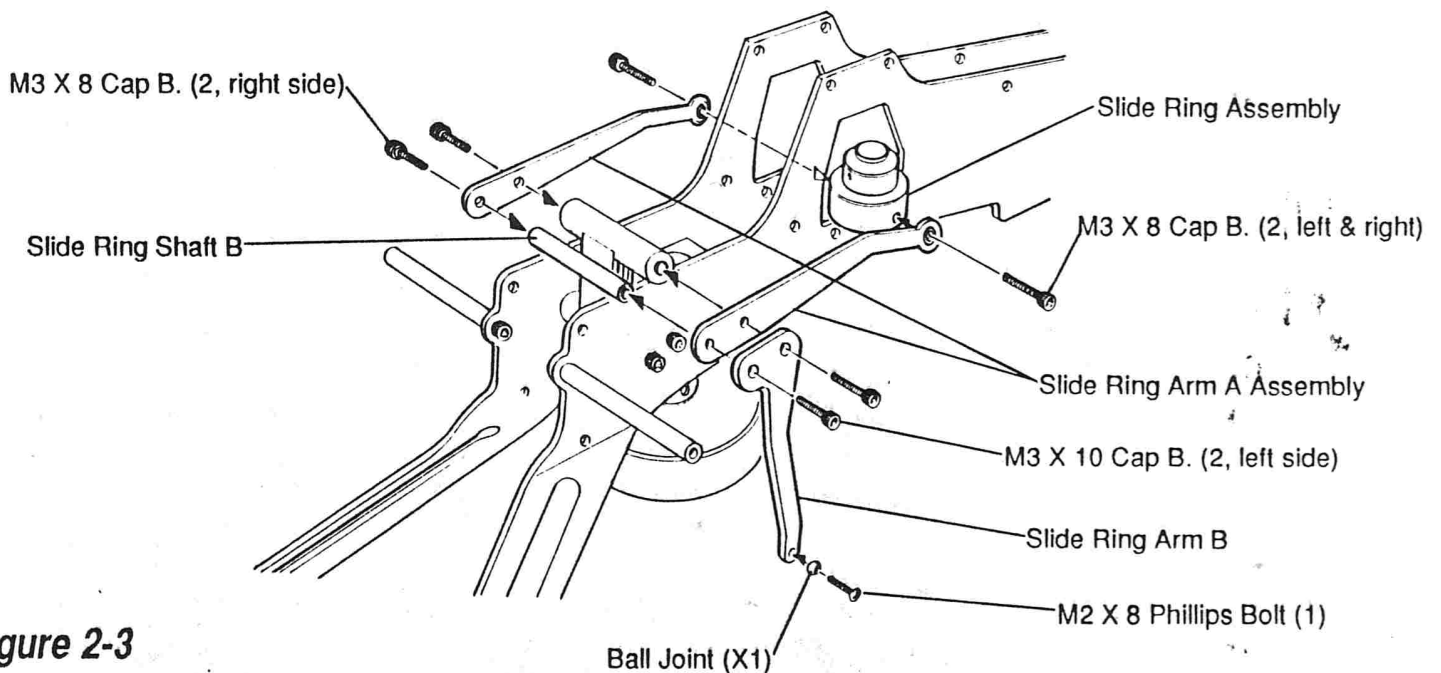

Figure 2-3
Step 11. Insert the slide ring assembly into the main frames as shown in Figure 2-3. Attach the slide ring arm (A) assemblies using (2) M3 X 8 cap bolts and Kalt Tite. *Do not over-tighten.* [(2) M3 X 8 Cap B.]
Step 12. Attach a ball joint to slide ring (B) using (1) M2 X 8 pan head screw and Kalt Tite. [(1) M2 X 8 Phillips Bolt]
Step 13. Attach one slide ring arm (A) to the right side of the slide ring holder and slide ring shaft (B), using (2) M3 X 8 cap bolts and Kalt Tite. Attach both slide ring arm (A) and (B) to the left side of the slide ring holder and slide ring shaft (B), using (2) M3 X 8 cap bolts and Kalt Tite. [(4) M3 X 8 Cap B.]